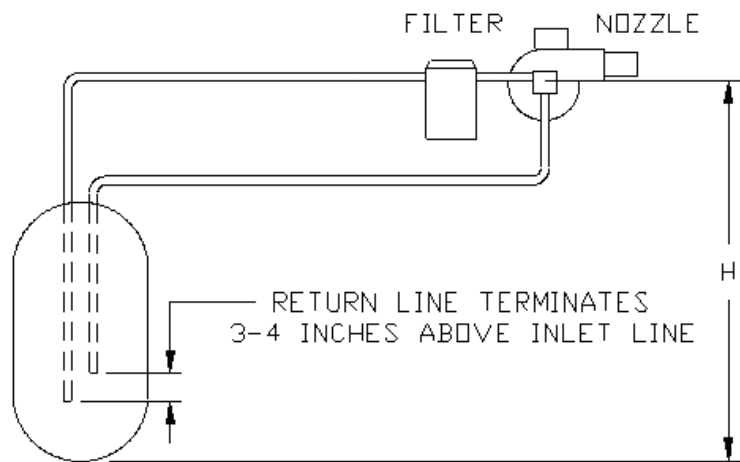

FIGURE 10.3: TWO-PIPE LIFT SYSTEM
- d) TWO-PIPE LIFT SYSTEM - Used when a fuel oil storage tank is located below an oil burner fuel pump suction port. See Figure 10.3. The vertical distance from bottom of the tank to center line of the pump (Dimension 'H') must not exceed that shown in the pump manufacturer's instructions. The maximum permissible distance 'H' allowed is reduced by the number of fittings, filters and valves installed in the line.